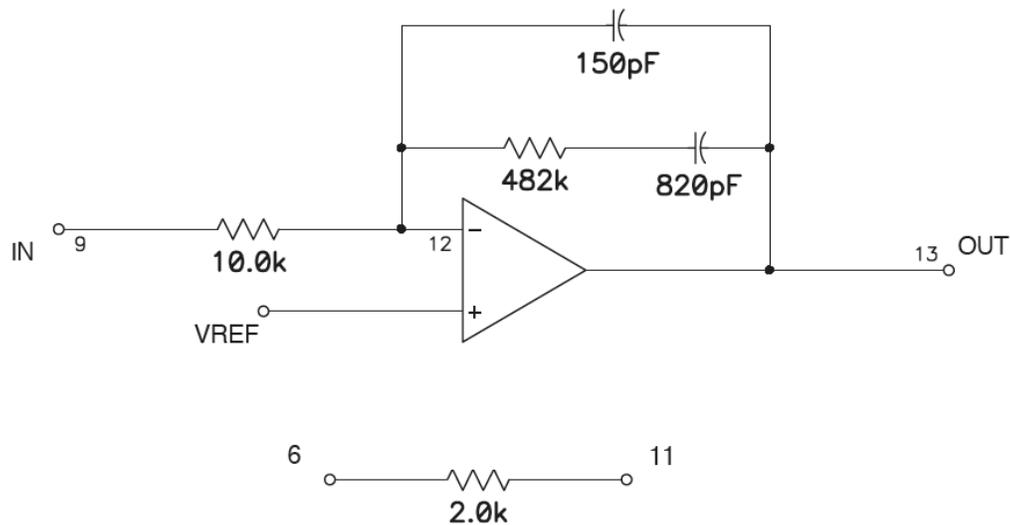

Figure 7.4: Type 2 Controller
- Remove shorting link from J61 and insert the Type 2 Controller plug-in board whose circuit is shown in Fig. 7.4 into the terminal strip J60 (The pin numbers shown in the figure correspond to pin numbers on the terminal strip). This board will add the voltage feedback to the control.